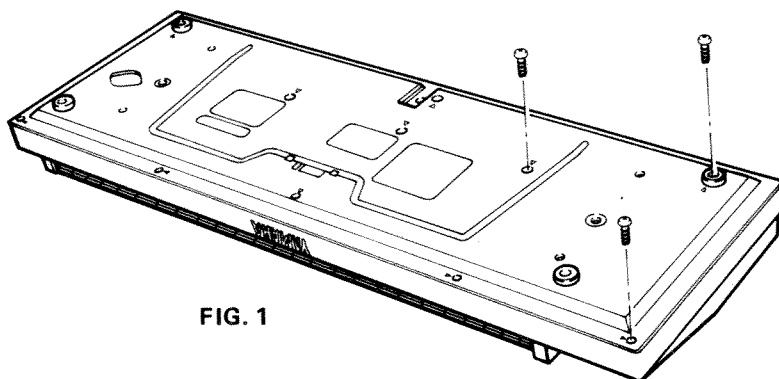

FIG. 1
- Loosen the screws installed at the 11 places, marked “▽”, on the bottom plate and remove the lower case as shown in Fig. 1.